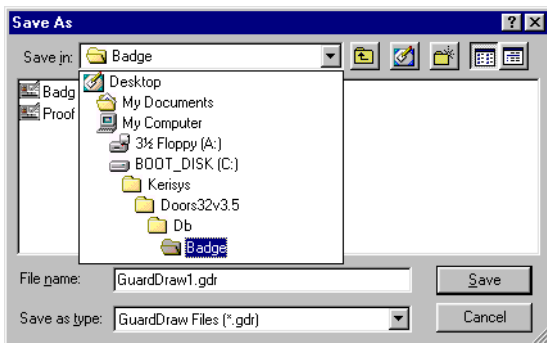

Figure 13: The Template Folder Structure
- Click the at the right side of the “Save in” field and the current folder structure is displayed (see Figure 13).